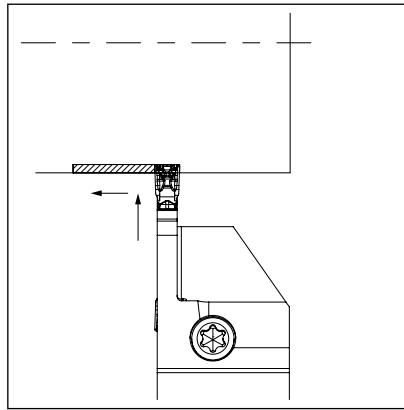

Fig. 2
- 2. Grooving depth under 0.5 mm:** For finishing - refer to fig. 2